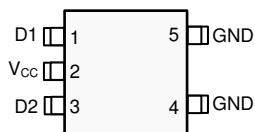

Figure 4-1. Pin Diagram (SOT-23 (5)) Package
4.1 SOT-23 (5) Package
Figure 4-1 shows the SN6501-Q1 pin diagram for the SOT-23 (5) package. For a detailed description of the device pins please refer to the *Pin Configuration and Functions* section in the SN6501-Q1 data sheet.